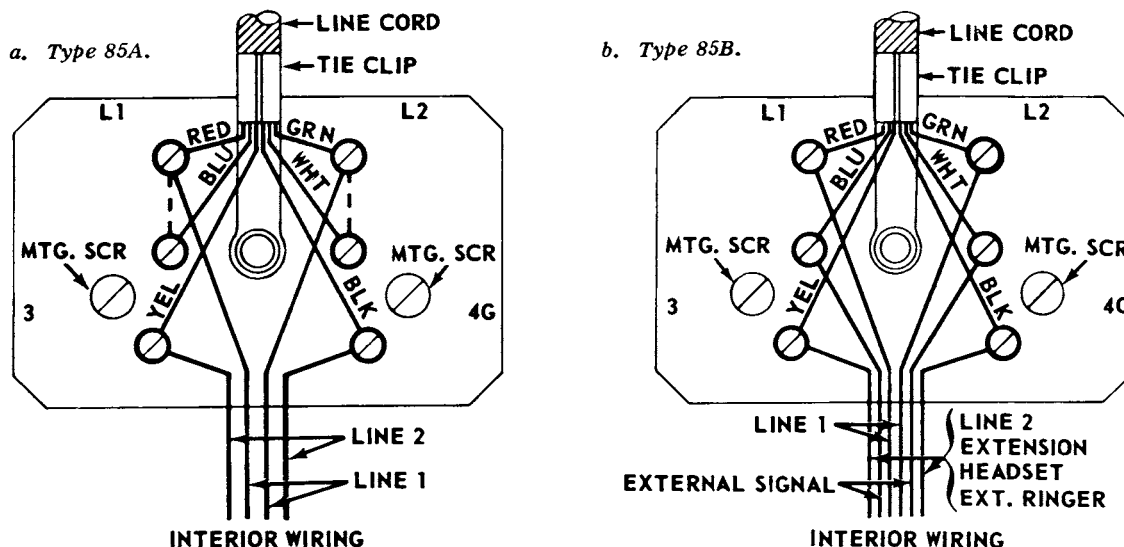

Figure 13. Standard terminal block wiring for manually-adjusted Type 85A and 85B telephones.
NOTE: Some self-compensating Type 85A and Type 85B telephones were equipped with 6-terminal, terminal blocks. The connections at the terminal block are the same as those shown in figure 13.
4.1 Manually-adjusted Type 85A and Type 85B telephones are supplied with one 6-terminal, terminal block. Figure 13 illustrates the standard connections at the terminal block for the line cord wires and interior wires.